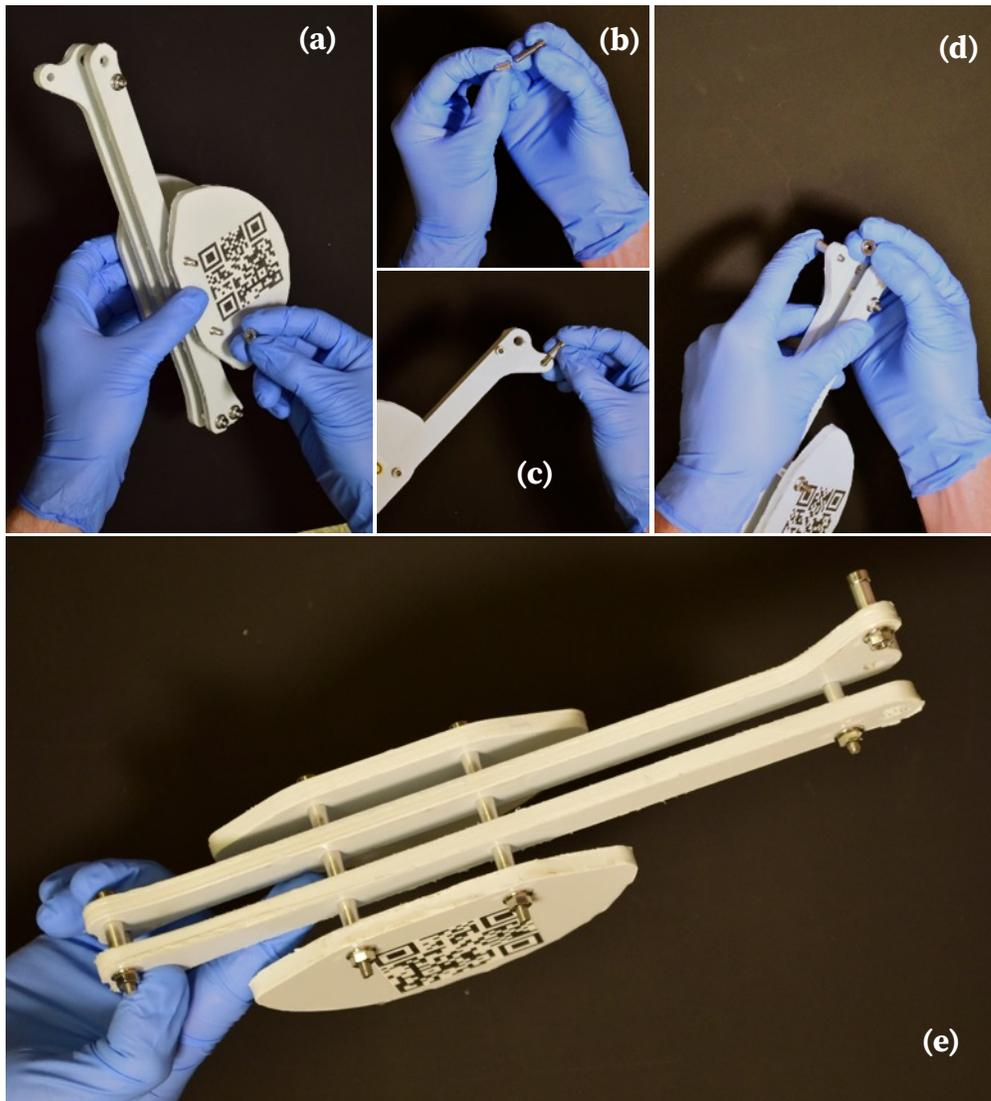

Figure 9
Step 12: Place a 4.2mm x 10mm spacer [Part 5] on a M4X30 socket head screw [Part 2]. Feed the screw through the hole as shown in figure 9(c) and attach a flange nut until snug. Fig 9(e) represents a completed lever assembly.